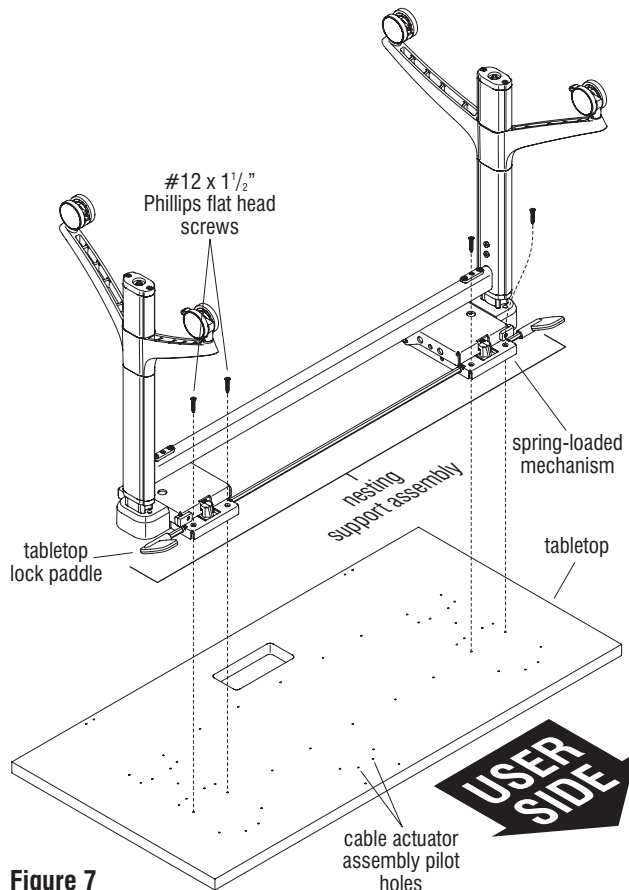

Figure 7
16. Carefully place the tabletop upside down on a soft, protective surface. Take note that the "user side" of the tabletop has a pilot hole pattern for the cable actuator assembly, near the front edge, at the center as illustrated in Figure 7 & Detail J. Carefully position the nesting support assembly onto the tabletop with the tabletop lock paddles and wider spread of the legs oriented to be facing the user side of the table, as illustrated (Figure 7 & Detail J).
17. Align the two mounting holes on the front of each spring-loaded support assembly to the corresponding pre-drilled holes at the underside of the tabletop, then secure into each pre-drilled hole a #12 x 1/2" Phillips flat head screw. Do not over-tighten (Figure 7 & Detail K).